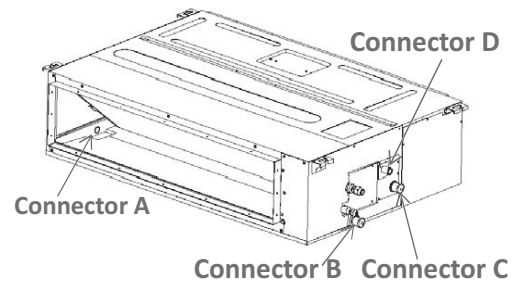

Fig. 43 —Connection of drain pipe to condensate lift pump sizes 24-58K
- Plug the power cable of the external pump to CN13 / "PUMP" pin and plug the water level sensor cable to CN5 / "WATER" to enable the pump (see Fig. 43).
- Sizes 24K, 36K, 48K and 58K have a built-in condensate lift pump. Drain connections (A, B and C) are covered with caps. Connect the drainpipe to connector D (see Fig. 43).